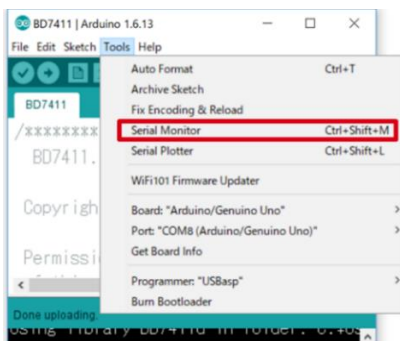

Figure 5. Tools Setting
6. Select [Tools]->[Serial Monitor] (Figure 5)